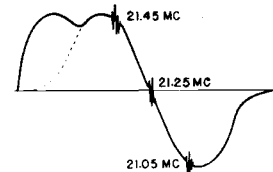

Figure 2-4. Alternate Ratio Detector Response Curves.
5. Observe ratio detector response (figure 2-4). Since the sweep signal is fed through the entire audio IF system for this check, mis-alignment of the audio IF's will affect this curve. This provides an overall audio IF response check. The shape of the curve should be such as to provide a minimum vertical voltage slope of 50 KC to each side of the 21.25 MC marker (cross over point). Maximum size and linearity of the straight portion of the curve is ideal. The non-symmetrical "S" pattern (dotted line in Figure 2-4). Check for linearity between the markers indicated on the curve. The response curves obtained may appear inverted and/or reversed (end for end) depending on the sweep generator and oscilloscope used.